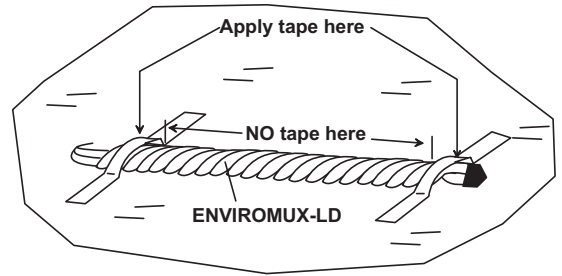

Figure 3- Secure liquid detection sensor with tape
2. Connect the optional liquid detection sensor (ENVIROMUX-LD- sold separately) to the terminals marked "WATER". The twisted orange sensing cable should be placed flat on the surface (usually the floor) where liquid detection is desired. If tape is required to hold the sensor in place, be sure to only apply tape to the ends, exposing as much of the sensor as possible. At least 5/8" of the sensor must be exposed for it to function. (See Fig. 3)